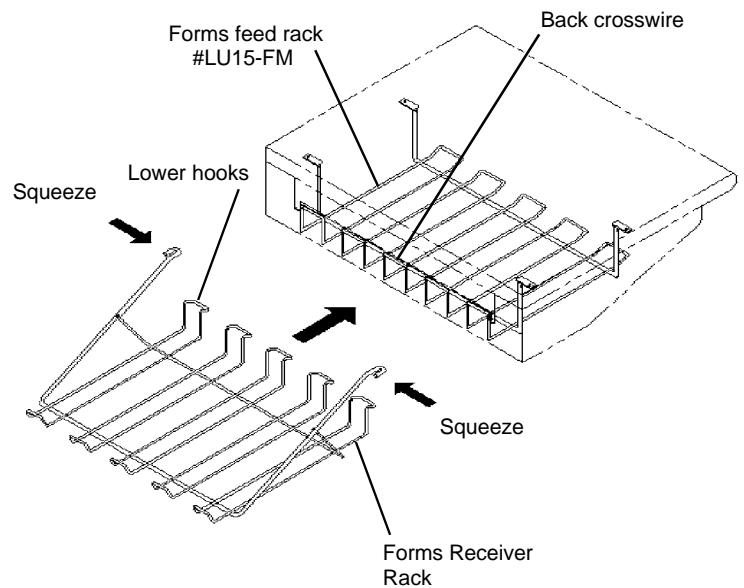

Figure 1
1. Hook the lower hooks of the Forms Receiver Rack onto the back crosswire of the Forms Feed Rack. See **Figure 1**.